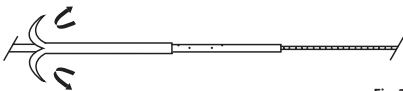

Fig. 3
- c) After the initial advancement of the catheter over the wire guide, pull back and peel away the straightener for catheter advancement. (**Fig. 3**)